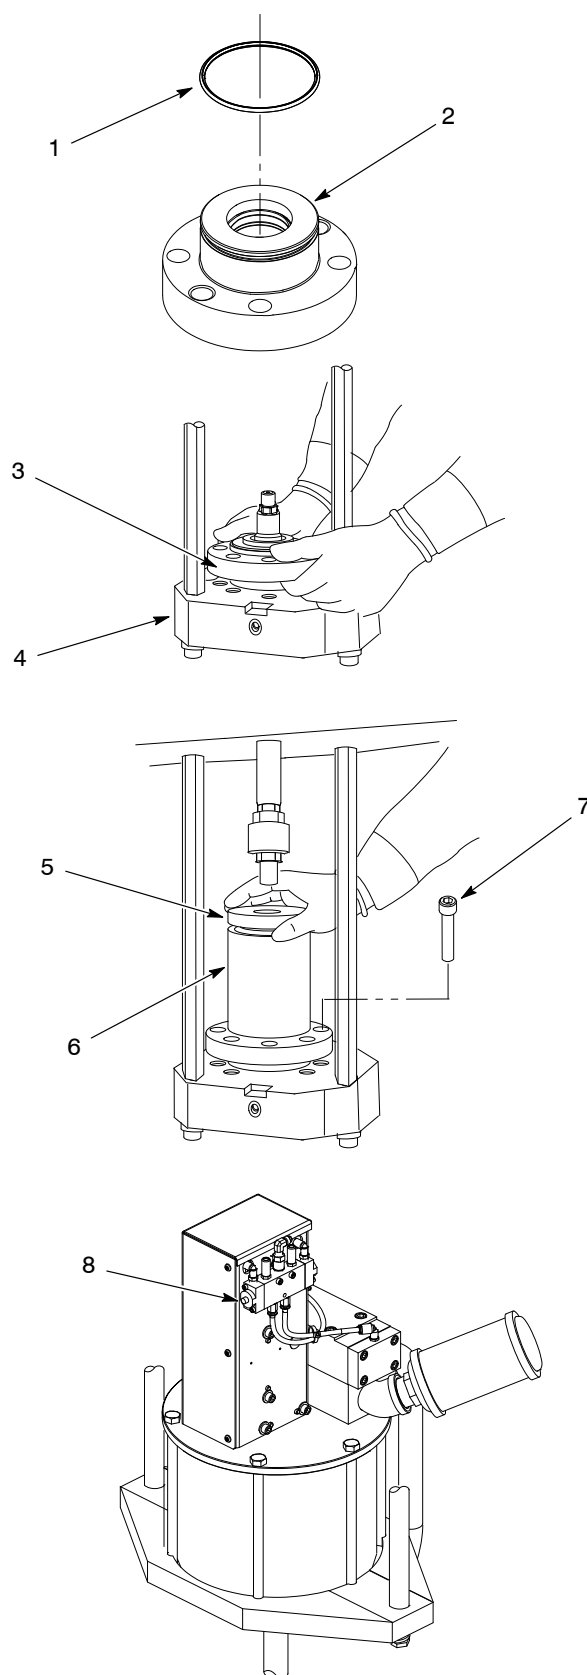

Figure 3 Installing the Packing Gland
OFF	<p>NOTE: Some O-ring lubricants may react to your dispensing material. Contact your Nordson Corporation representative to determine the correct O-ring lubricant to use.</p> <ol style="list-style-type: none"> See Figure 3. Make sure that the packing gland O-ring (1) and the bore of the packing gland (2) is lubricated with O-ring lubricant. Install the packing gland (3) into the pump body (4). Install the solvent chamber cup (6) onto the packing gland. Place the packing gland insertion tool (5) on top of the solvent chamber cup (6).